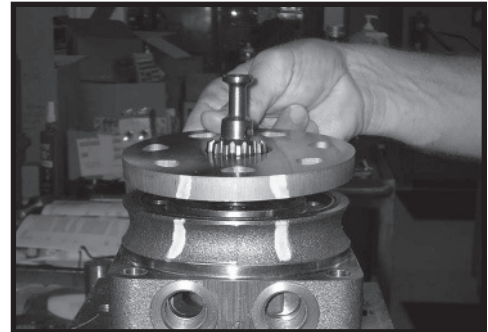

Figure 52
12. Assemble wear plate (9) over the drive link (10) and alignment studs onto the housing (18). SEE FIGURE 52.